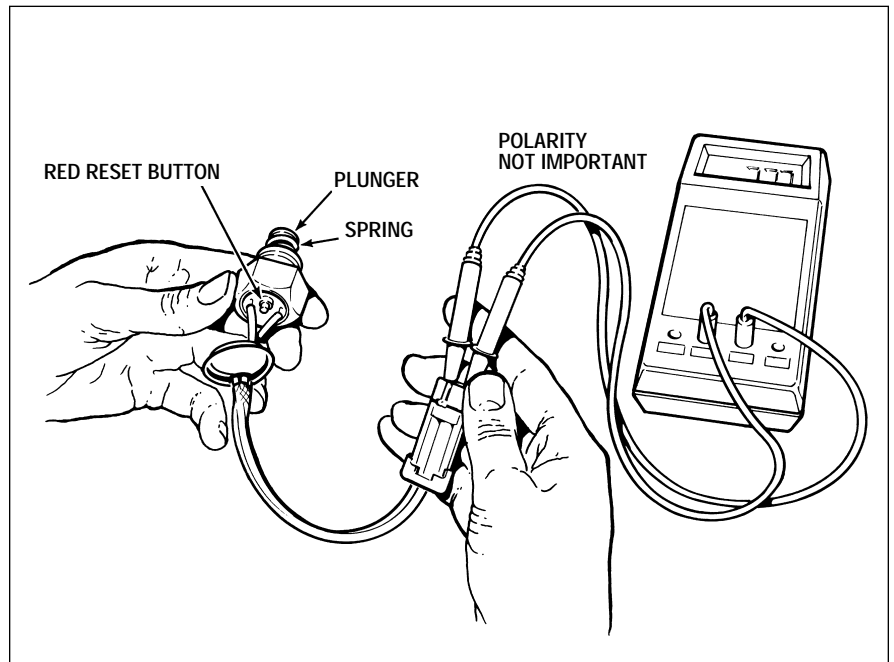

Figure 5-2 Overheat Sensor Test
- a) Connect a multimeter (adjusted to measure resistance) to the overheat breaker connector. (See Figure 5-2) The sensor should be normally closed. Only if the sensor has tripped should it be open circuit.